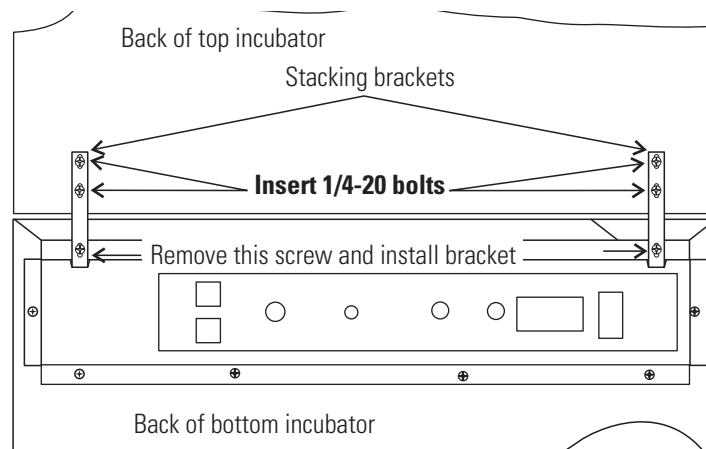

Figure 1-8. Two Screws From Control Panel Back
- Remove and retain the two screws from the back of the control panel on the bottom unit as identified in Figure 1-8.
- Secure the stacking brackets to the back of the bottom unit, using the retained screws (Figure 1-8). Be sure to align the brackets with the mounting holes on the back of the upper incubator. Secure the brackets to the upper unit with the ¼-20 bolts provided in the stacking kit. A 7/16" wrench or socket is required for the bolts.